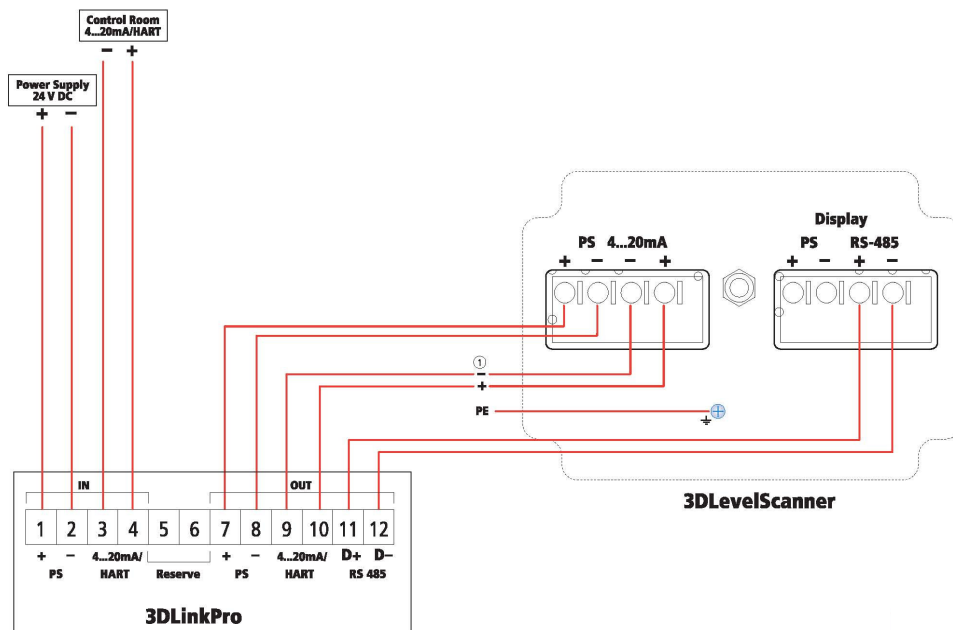

Figure 6 – Wiring Diagram
4. Connect the wires to sockets "3" and "4" according to the diagram in Figure 6.
Connect two wires to sockets "11" and "12" according to the diagram in Figure 6.
Connect two wires to sockets "7" and "8" for the power supply of the APM 3DLevelScanner and two wires to sockets "9" and "10" for the 4...20mA/HART communication of the APM 3DLevelScanner according to the above diagram. See Figure 6.